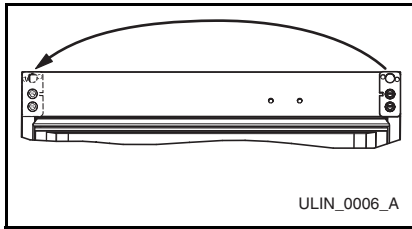

Figure 24
8. With bottom of door facing up, remove pivot plate (two screws), flip over, and remount on opposite side of door (**Figure 24**). **Be sure notch in plate faces center.**